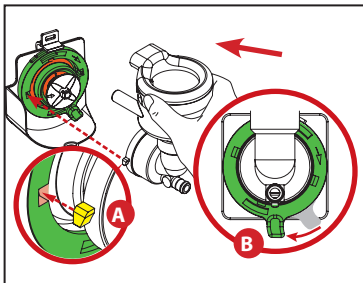

Fig.4
3. Turn the mounting plate clockwise until the mixer holes are aligned to the 3 o'clock and 9 o'clock positions. Align the guide hooks on the mixer bowl and insert them through the plate and into the chassis (A). Finally, lock the mixer bowl in by rotating the mounting plate clockwise until it completely stops turning and the tab is at the Lock position (B). (See Fig.4)